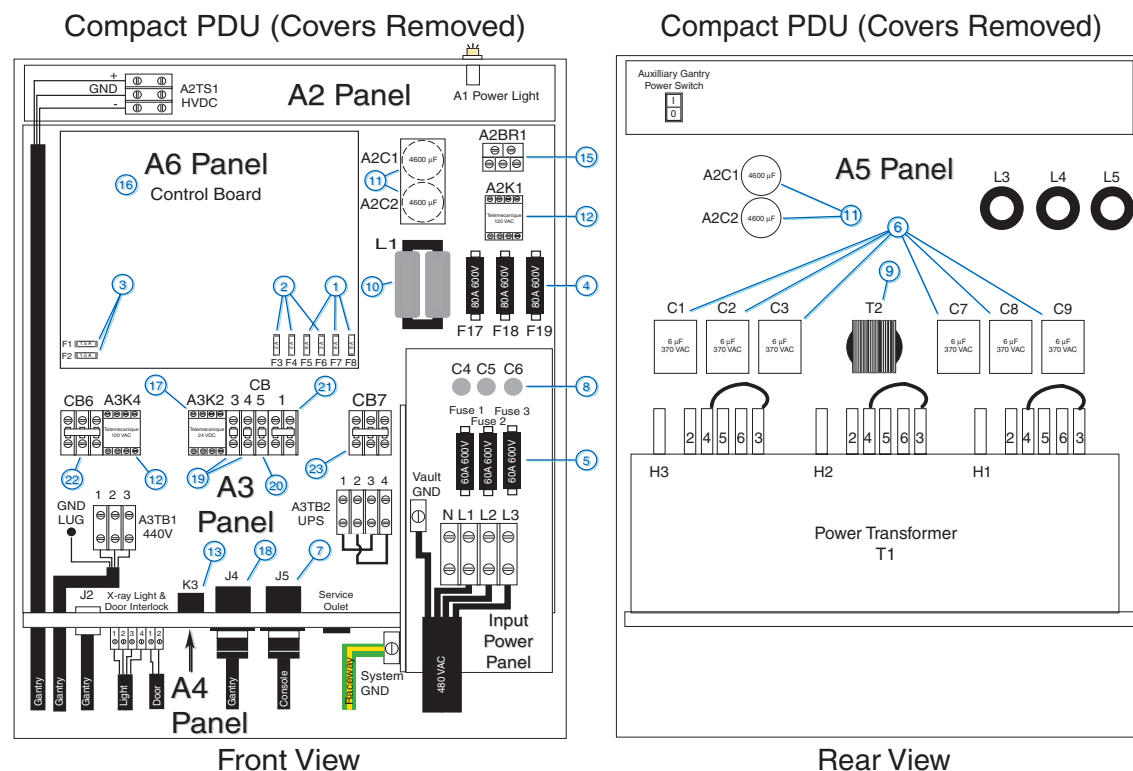

Figure 2-1 Compact PDU
- 3.) Remove the PDU’s back cover (see Figure 2-1 for a back view of the PDU with cover off)